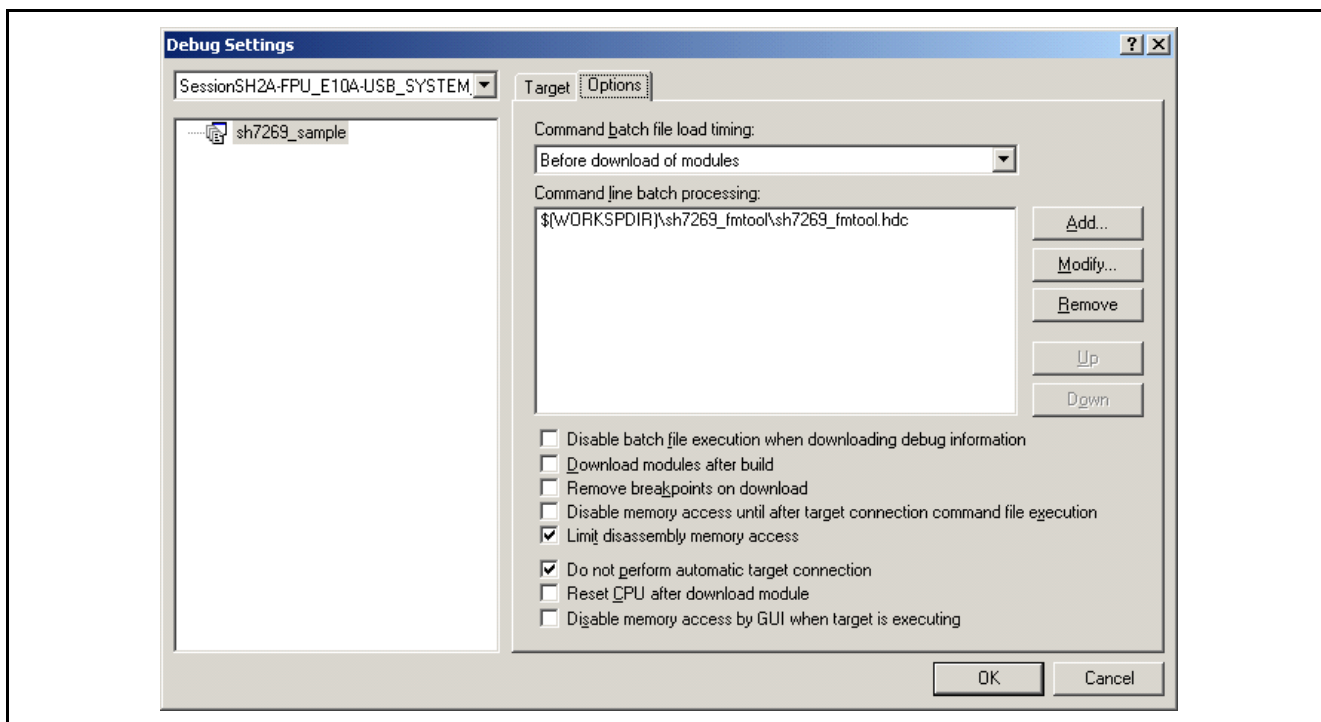

Figure 6.3 Window for Debug Setting
2. The Window for Debug Setting shown in Figure 6.3 opens.